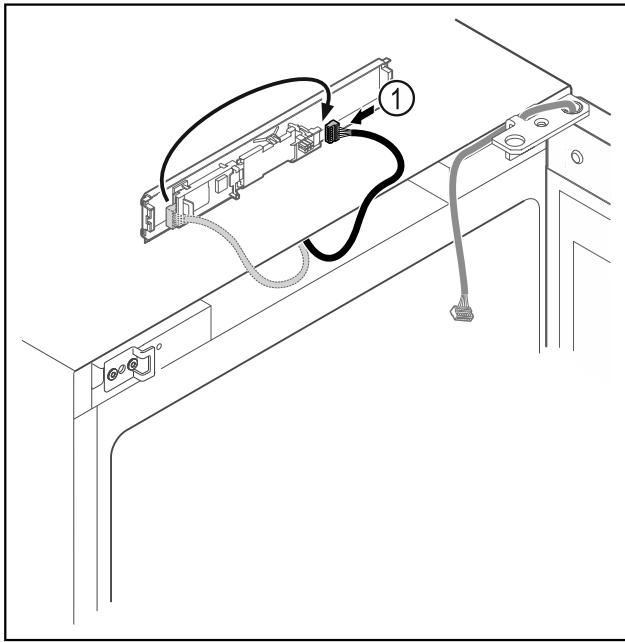

Fig. 8
- ▶ Connect the plug Fig. 8 (1) to the circuit board.